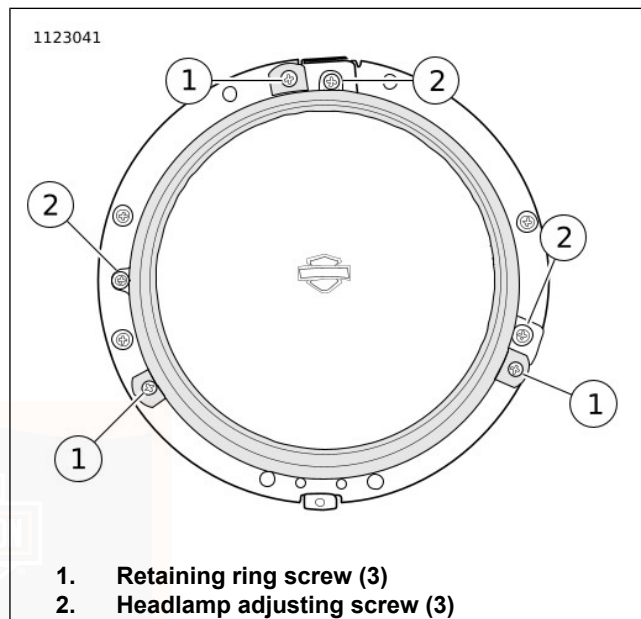

Figure 94. Headlamp Retaining Ring
3. See Figure 94. Remove screws (1) securing retaining ring.
2. See Figure 94. Secure headlamp assembly with retaining ring and screws (1). Tighten.